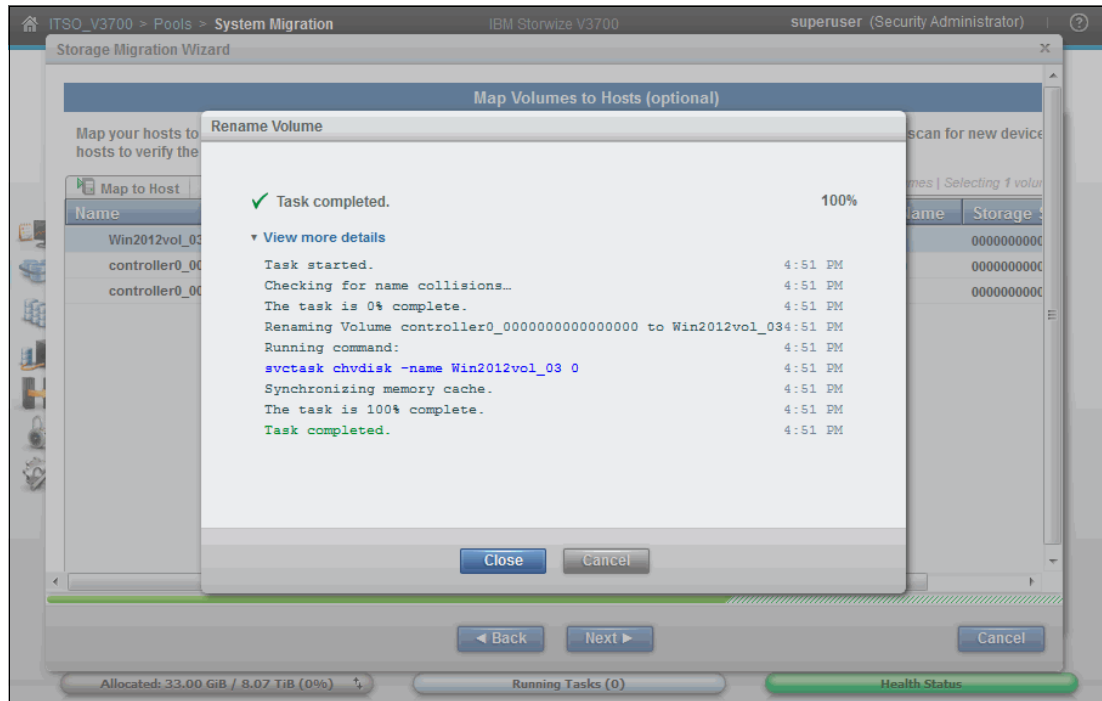

Figure 6-52 Rename task complete
- Enter the new name and click **Rename** to complete the operation. The task completes, as shown in Figure 6-52.